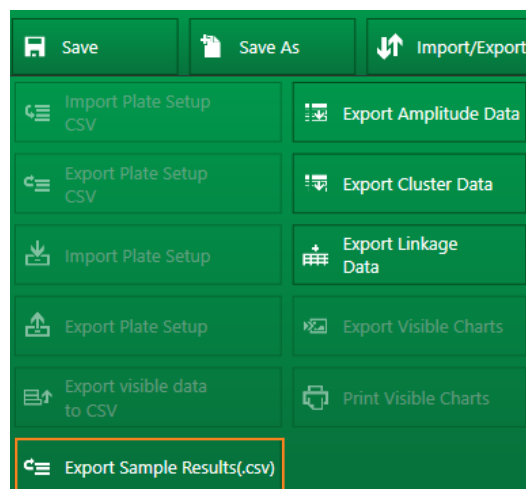

Fig. 10. Screenshot of the APF result export process. Click Export Sample Results(.csv) (orange rectangle) to export APF results.
4. To export a .csv file containing the APF results, click on Import/Export in the top left portion of the screen. Next, click Export Sample Results(.csv) (Figure 10).